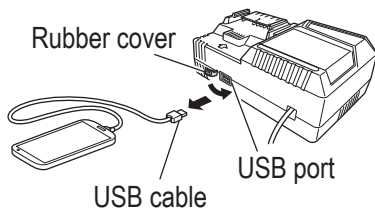

Fig. 19
- Unplug the power cord from the electrical outlet. (**Fig. 19**)